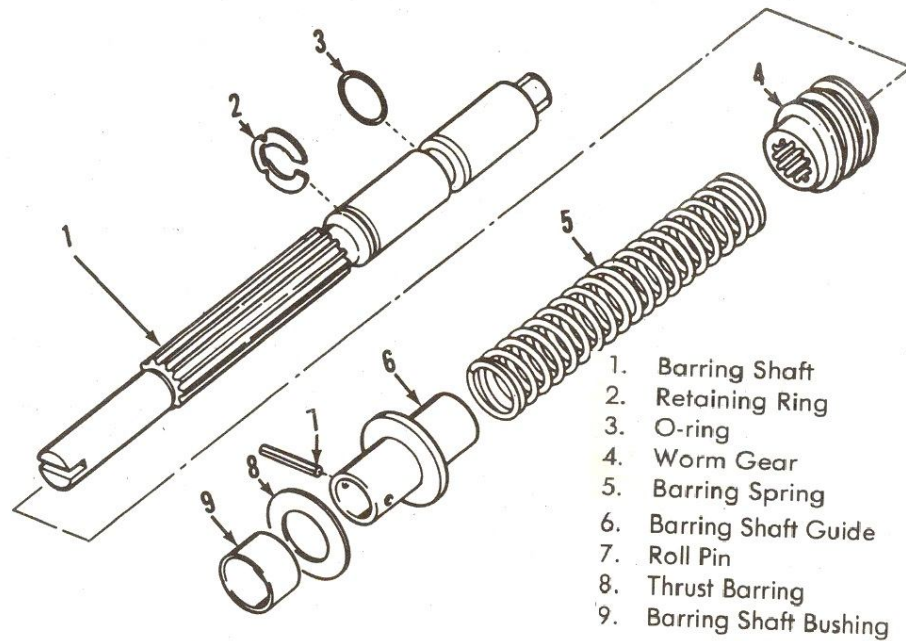

Fig. 9-4. Barring device
- ❖ Remove the barring device shaft (1) and install the O-ring (3) Fig. 9-4, in the proper location on the shaft.
- ❖ Insert the barring shaft (1) into the shaft bore for enough to expose the splined end of the shaft, Install the worm gear (4) and the spring into position on the shaft.
- ❖ Continue to insert the barring shaft (1) for enough to expose the retaining ring groove and install the retaining ring (2), Fig. 9-4.
Install the thrust washer and clamping washer over the shaft. Hold in place with a retaining ring. The beveled side of the retaining ring must be out during the installation. The chamfer on the clamping washer must be toward the shaft stop as in (7, Fig. 9-4)